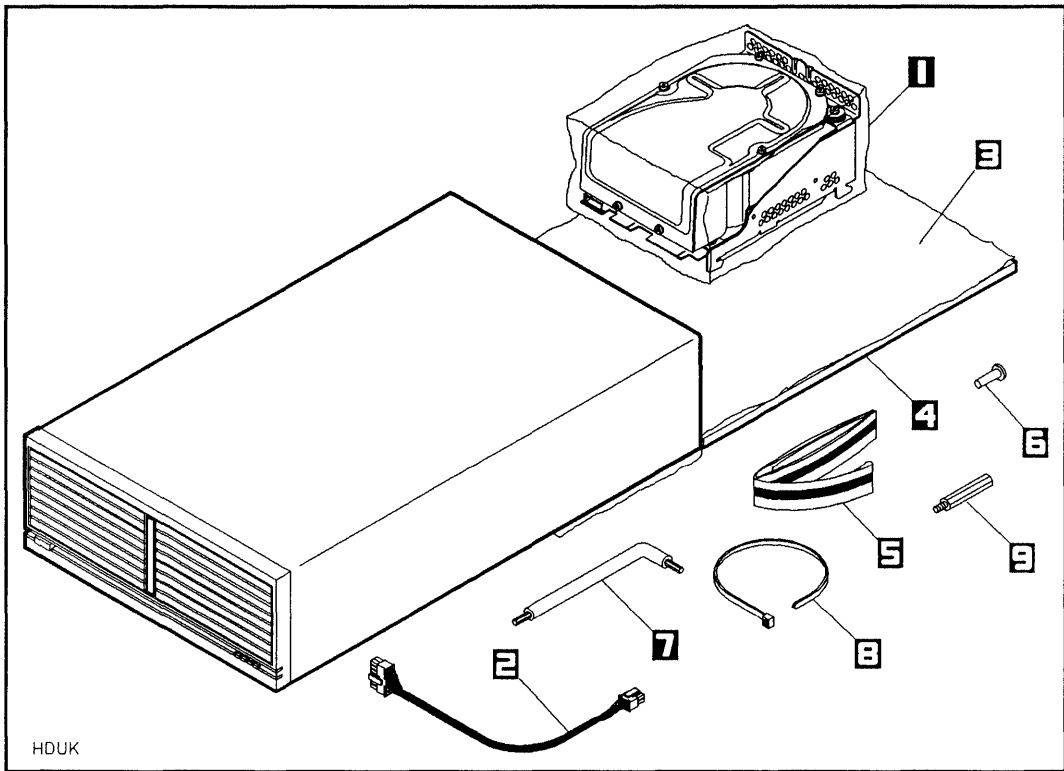

Figure 2-2. Hard Disk Drive Upgrade Kit Contents
The first step when installing a hard disk drive into your mass storage system is to unpack and identify the contents of the C2290A or C2291A upgrade kit. Figure 2-2 shows the contents of the C2290A and C2291A upgrade kits.
5. Place the rear of the mass storage system chassis on the conductive sheet as shown in Figure 2-2.